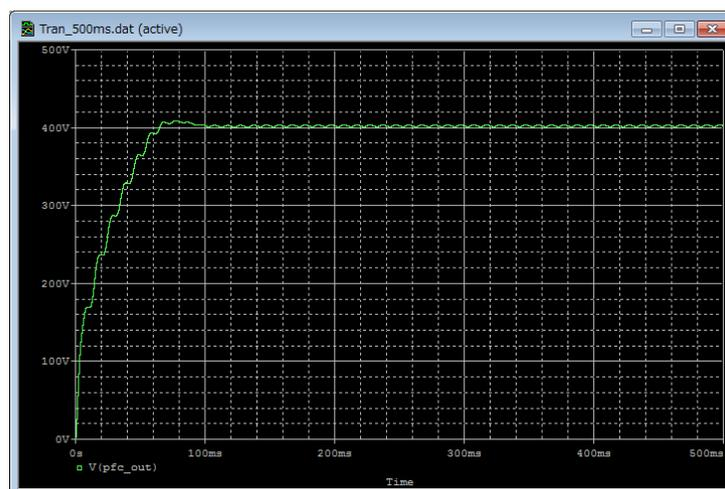

Fig. 5.7 Simulation waveform view (Example: PFC output voltage waveform)
3. Click **OK**. Then, the selected waveform appears as shown in Fig. 5.7.